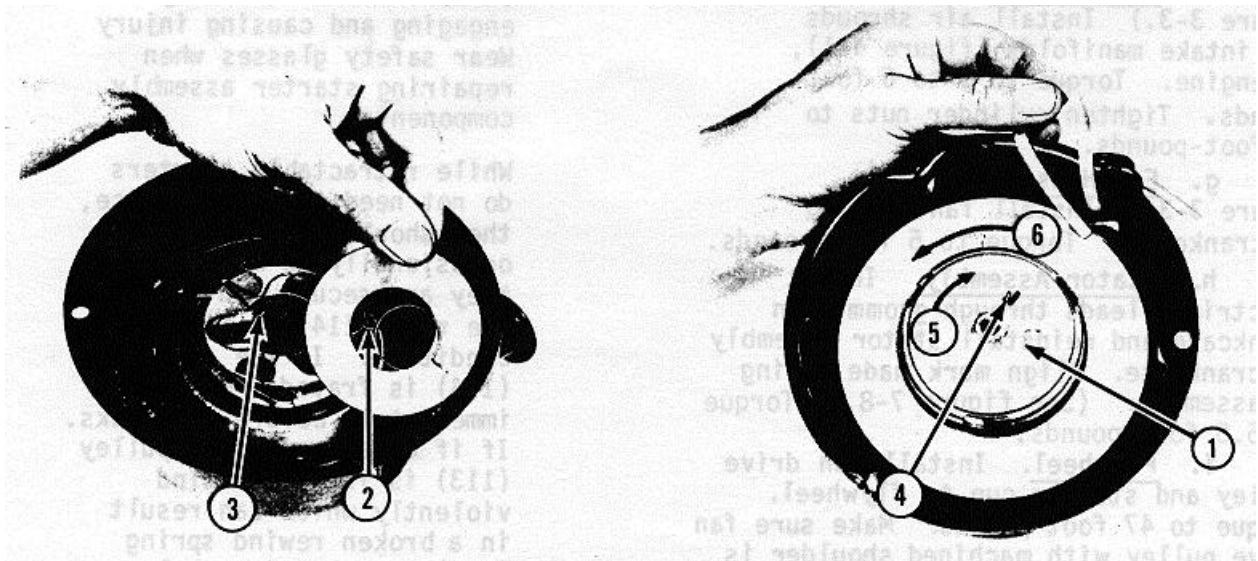

Figure 6-14. Installing Return Spring
spring from jumping out of case (see figure 6-14).
(5) Assemble starter pawls (2), pawl return springs (3). and thrust washer (4). (See figure 6-14.) (6) Insert straight end of plate return spring into hole (3) of reel. (See figure 6-15.)